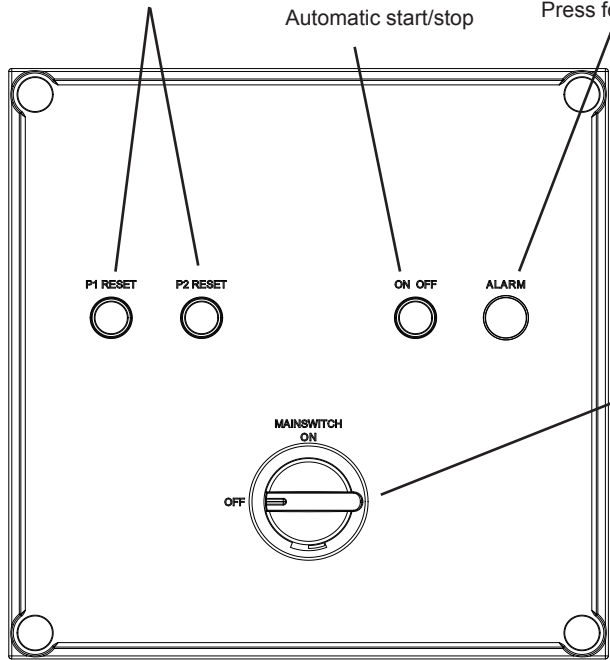

Fig.1
A microprocessor controls and checks the system using 2 pressure switches, 1 paddle flow switch and 1 pressure monitor, see Fig. 1.
See Fig. 1. Alarm, flashing = wait. Alarm, constant light = STOP. Controls are reset after ALARM STOP by pressing ON/OFF once.
4. The thermal relay trips if the motor is overloaded. The thermal relay is RESET by pressing the button marker R. The motor protection switch will now permit a restart. See Fig. 1.
3. The thermal relay trips if the motor is overloaded. The thermal relay is RESET by pressing the button marker R. The motor protection switch will now permit a restart. See Fig. 1.